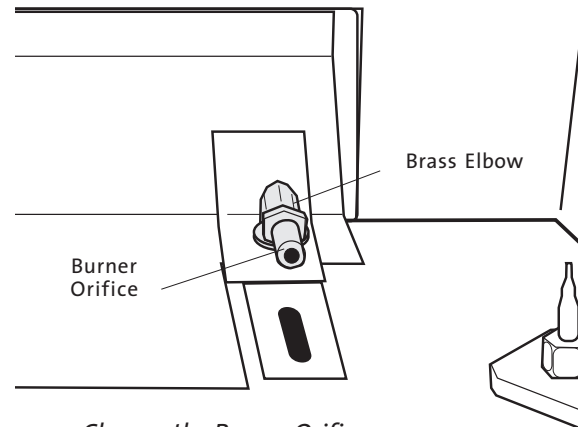

Figure 14. Change the Burner Orifice.
8. Change the Burner Orifice. Using a fh" open ended wrench or deep-well socket, remove the burner orifice from its brass elbow housing and replace with the appropriate orifice supplied in the kit. See fig. 14.
10. Replace the Burner Plate. Engage the burner tube with the Air Shutter assembly as in fig. 14. Be sure the burner is securely engaged with the two support brackets at the front of the firebox and push the plate back toward the rear of the firebox.